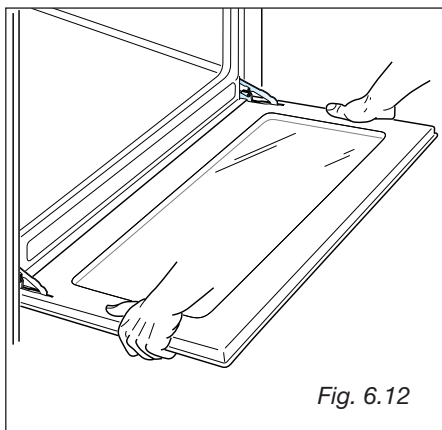

Fig. 6.12
- Hold the door as shown in fig. 6.12.